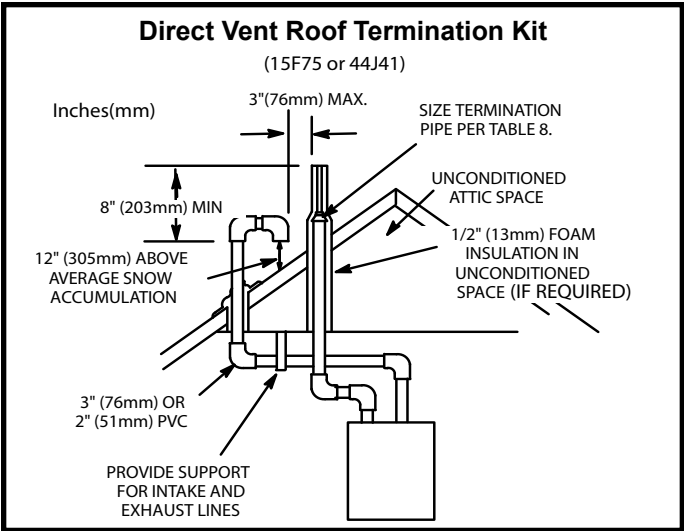

Figure 29
Intake and exhaust pipes may be routed either horizontally through an outside wall or vertically through the roof. In attic or closet installations, vertical termination through the roof is preferred. Figures 29 through 39 show typical terminations.
- 3. On roof terminations, the intake piping should terminate straight down using two 90° elbows (See Figure 29).